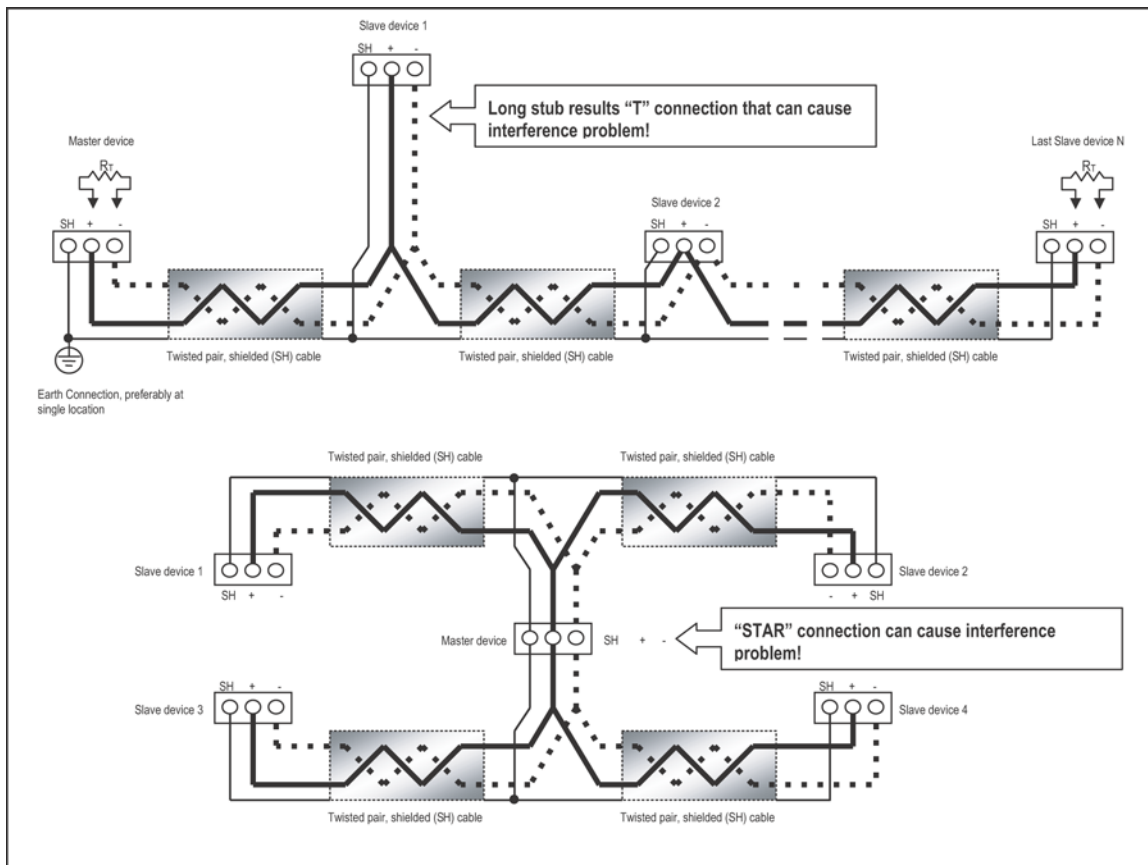

Figure 5-6: Incorrect "T" and "Star" Topologies
- Connect shield to RS485 Master and individual devices as shown in Figure 5-6. You may also connect the shield to earth-ground at one point.